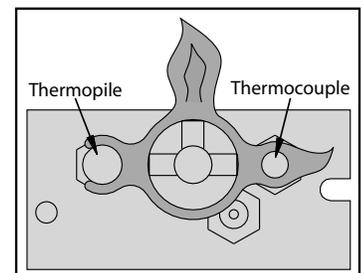

Figure 4. Pilot flame.
1. Turn off the gas to the fireplace. **If not recently done, remove the glass and let the unit air out for at least five (5) minutes to clear out any gas.** Turn on gas to the heater. Leak test all joints with soapy water. **NEVER USE AN OPEN FLAME FOR LEAK TESTING.**
2. Start the pilot by pressing the gas control knob and turning it to PILOT. While holding the gas control knob in, press the piezo ignitor several times until the pilot light starts. Hold the gas control knob in for 30 seconds. Check that the pilot has fully engulfed the thermocouple assembly (see Figure 4).